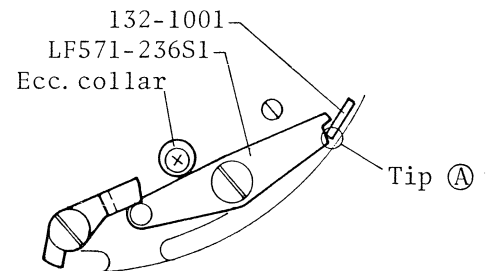

Fig.23-1
With shutter cocked, ① tip of 132-1001 shutter cocking ring should be set on LF571-236S1 shutter start latch as much as its thickness of the ① as shown in Fig. 23-1.